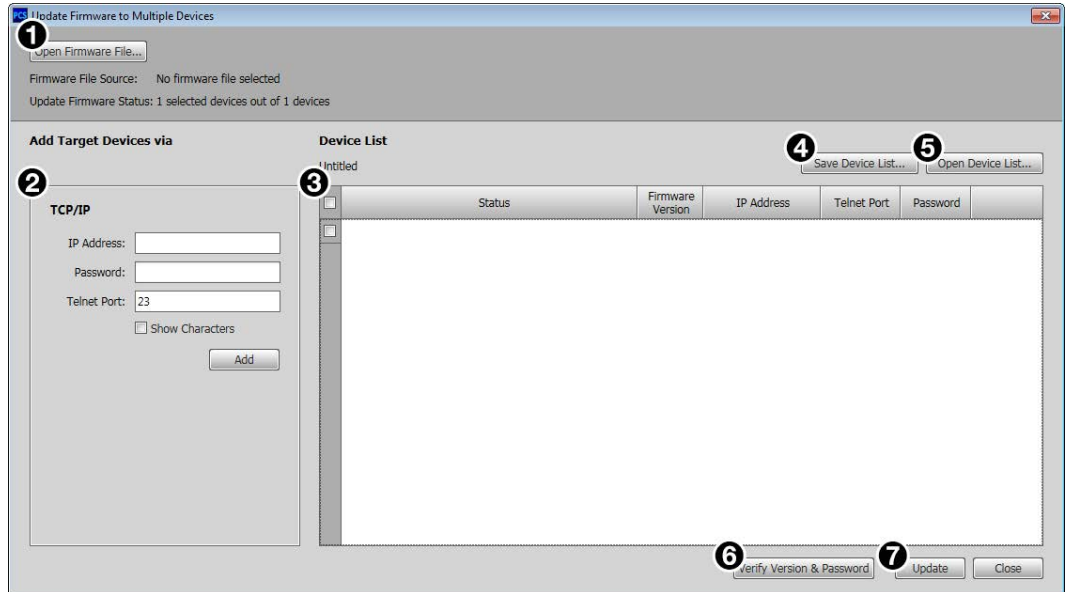

Figure 55. Update Firmware to Multiple Devices Dialog Box
1. Click the **Save Device List...** button (see figure 55, 4). The Save Device List window opens.